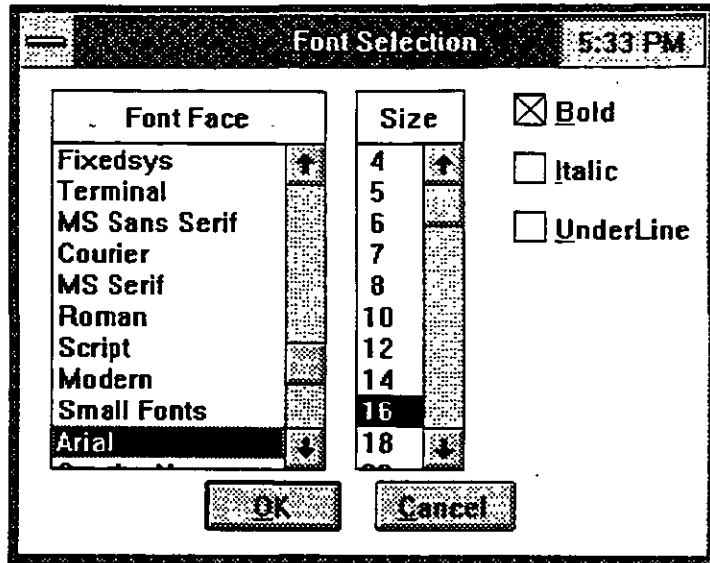

Figure 3-11
2.4. From the Attributes menu, select Label Font. The dialogue box, as shown in Figure 3-11, offers all fonts available to you. However, remember that the fonts that are offered to you are the ones that you have installed in your Windows. The